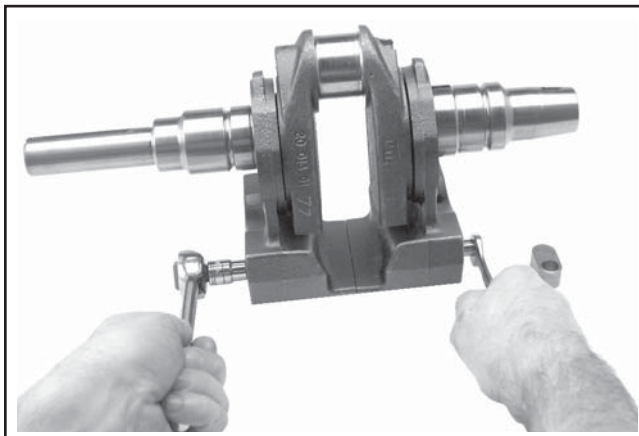

Figure 8-55. Removing Balance Weight Screw (Guide Shoe Design Before Serial No. 3618005213).
2. Remove the guide shoe from the guide pin on the flywheel side of the assembly (**Before Serial No. 3618005213**). See Figure 8-55. Remove the link from the guide pin on the PTO side of the assembly (**After Serial No. 3618005223**). See Figure 8-56.
3. Remove the long hex flange screw securing the two balance weight halves together on the crankshaft. Note the orientation of all parts. The guide pin is on flywheel side for the balance weight design with the closure plate side guide shoe. The guide pin is on PTO side for the balance weight design with the lower control link. Hold the guide pin with wrench or torx bit socket as required. **Do not** hold or damage the outside diameter (O.D.) of the guide pin. See Figure 8-55 or 8-56.